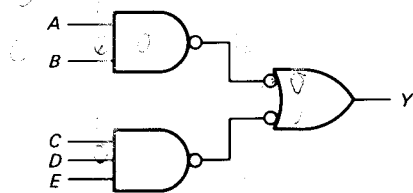

Fig. 3-33
- 3-23. What is the output in Fig. 3-33 if all inputs are low? If they are all high?
- 3-24. How many words are in the truth table of Fig. 3-33? What does  $Y$  equal for each of the following: